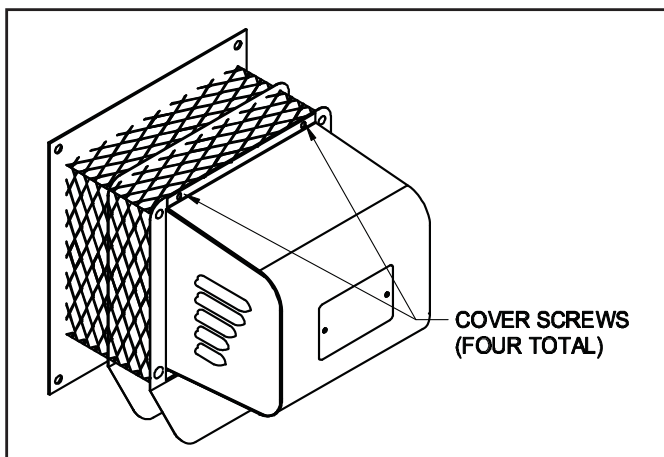

Figure 12
1. Remove the screws securing the motor enclosure cover. (See Figure 12)
1. Remove the motor enclosure cover by loosening the four screws. (See Figure 12)